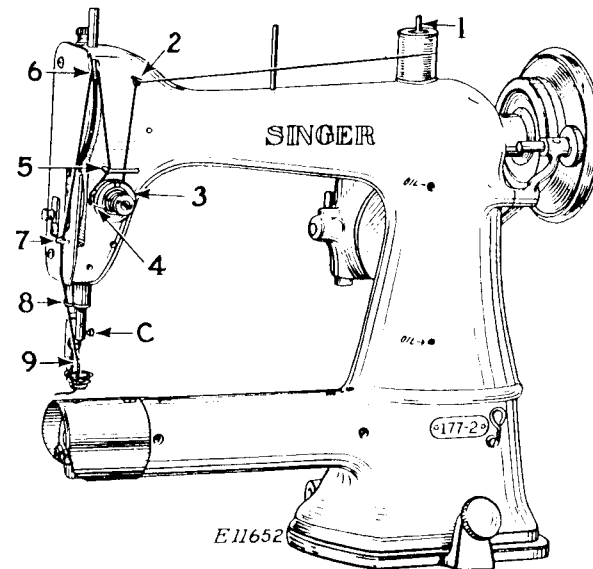

Fig. 5
Raise the needle bar to its highest point, loosen the needle clamp screw (C, Fig.5) and push the needle up into the bar as far as it will go with its long groove toward the left and the eye of the needle directly in line with the cylinder bed of the machine, then tighten the screw (C).
Place the spool of thread on spool pin (1, Fig.5), then pass the thread through the thread guide (2), down, under and from